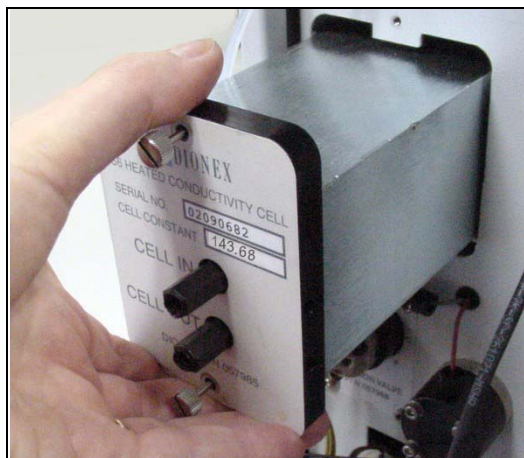

Figure 5-17. Removing the Cell Assembly
4. Continue pulling on the cover until the attached cell assembly slides out the front of the ICS-2000 (see Figure 5-17).